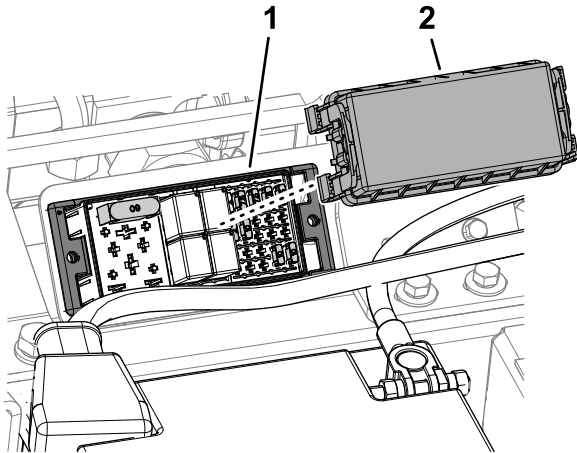

Figure 61
2. Remove the fuse-block cover (Figure 61)
5. Install the fuse-block cover (Figure 61).